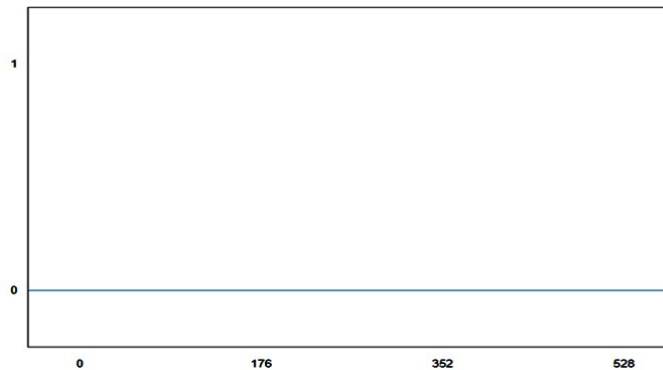

Figure 4: Output=0 always
1. **SPD= 1**, in this case our motors have to be off, for this to happen we need to have V_{avg} equal to 0V, by substituting $T=176$ in the equation, $V_{\text{avg}} = \frac{220 * t_{\text{on}}}{T} = 0$ we obtain $t_{\text{on}}=0$ which is the only case where we don't switch from a 0 output to a 1 output, in this case we will disable the TMR0 interrupt and re-enable our TMR0 interrupt, we then set the value of TMR0VAR to 44 to obtain our full period(T) ($44 * 4 = 176$) as in Figure 4